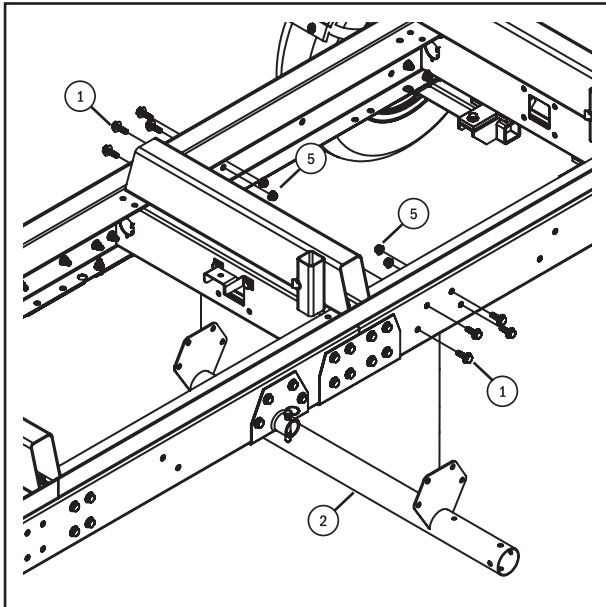

Fig. 1
Step 5: Install the Horizontal Mounting Tube to the Trailer. Install the Horizontal Mounting Tube (2) as shown in Fig. 1, to the trailer using eight M10 x 30 Flange Head Bolts (1) and M10 Self-Locking Flange Head Nuts (5). Torque these fasteners to between 32 and 37 ft. lbs.